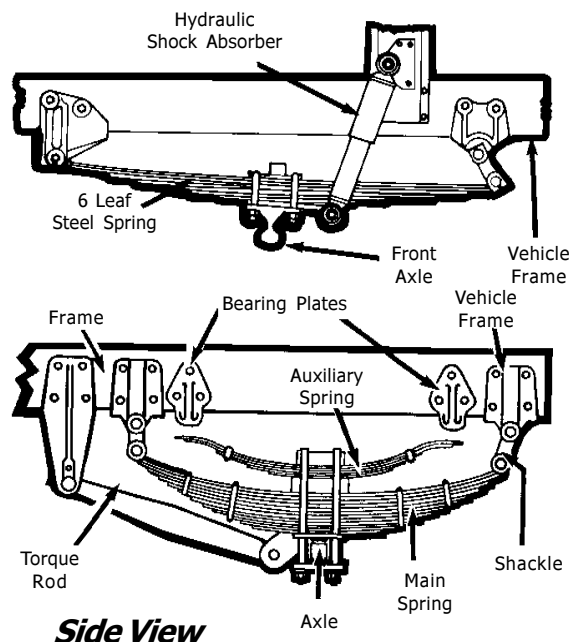

Figure 2-2
- **Suspension System Defects**—(Figures 2-2 through 2-4) The suspension system supports the vehicle and its load and keeps the axles in place. Broken suspension parts can be extremely dangerous.